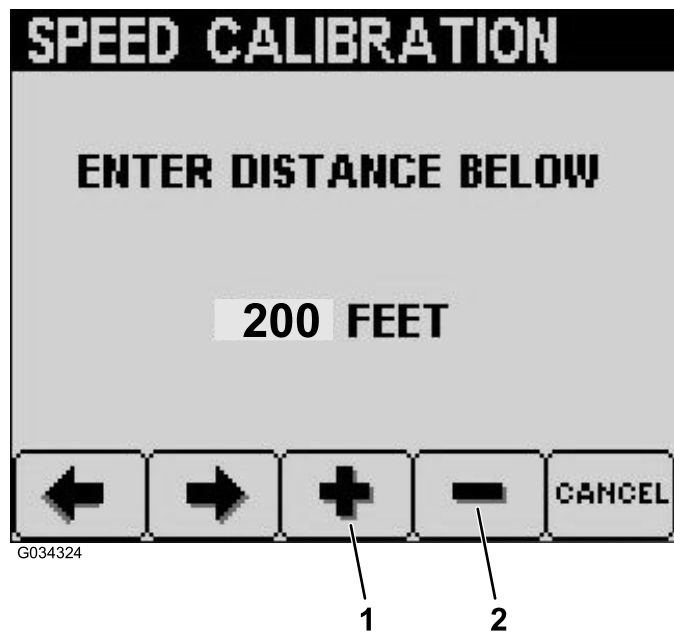

Figure 32
7. Press button 3 to increase the desired distance or press button 4 to decrease the desired distance (Figure 32).